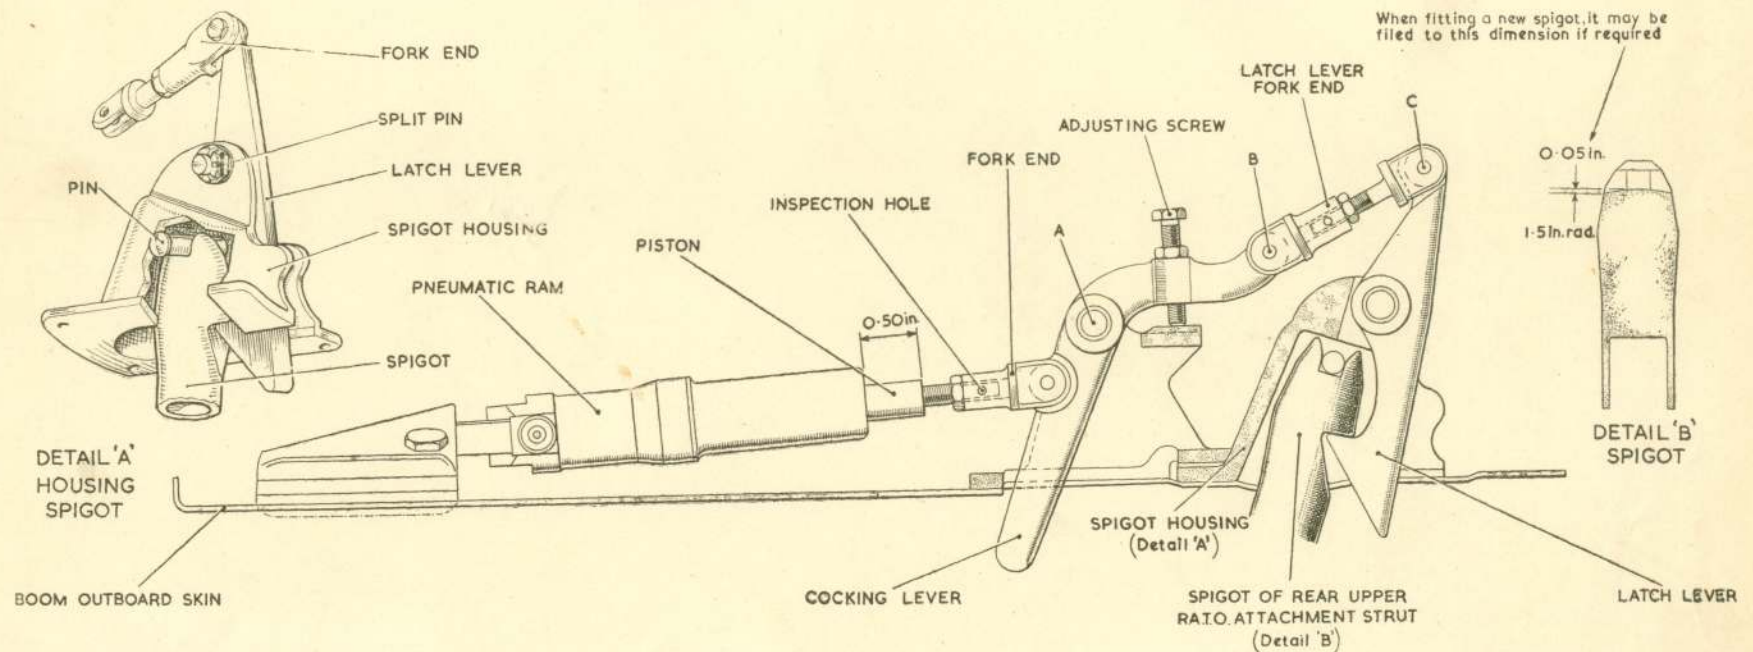

Fig. 4. R.A.T.O. equipment jettison unit assembly
5. The carrier assemblies may be jettisoned by depressing the jettison push valve, situated on the cabin port shelf (*Sect. 1, Chap. 1*). The jettisoning force is provided pneumatically (*Sect. 3, Chap. 7*). Depressing the jettison push valve, extends a pneumatic ram in each boom, which is coupled to the release mechanism. As the pneumatic ram piston extends, the latch lever, operated through linkage, disengages from the spigot of the rear upper attachment strut of the carrier assembly (*Fig. 4*). The weight of the assembly causes it to fall away from the aircraft, the jettisoning lever keeping it clear of the boom and tail plane. Details of the installation are given in A.P.(N) 1023 (7).
- (1) Remove the forward inboard access panel of the boom.
- (2) Adjust the latch lever fork-end (*fig. 4*) so that the toe of the latch lever has a 0.2 in. minimum engagement with the spigot of the rear upper R.A.T.O. carrier strut, and check for sufficient thread showing through the inspection hole in the fork-end of the lock-nut.
- (3) Turn the adjusting screw until the points 'A', 'B' and 'C' (*fig. 4*) are in line.
- (4) Turn out one and two thirds turns on the adjusting screw (10 flats at the hexagon head) and lock in position with the lock-nut.
1023(7) for information on the removal and assembly of components of the R.P. and R.A.T.O. equipment. ◀ When fitting a new R.A.T.O. carrier assembly, it is possible that the spigot on the rear upper attachment strut may fail to latch. It is permissible to file up to 0.05 in. off each end of the 0.26 in. slot to make a 1.5 in. radius as shown in fig. 4. ▶